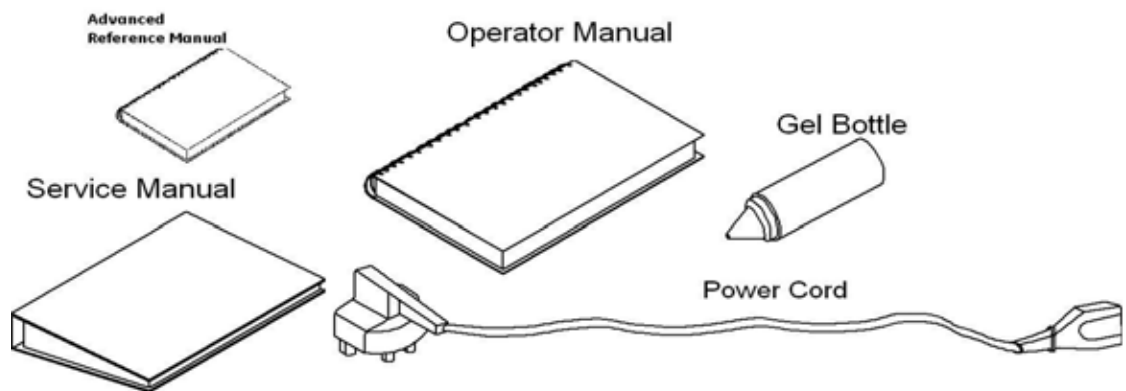

Figure 3-3 Unpacking LOGIQ™ 100 PRO
- 4.) Remove the Operator Manual, Service Manual, Gel Bottle, Power Cord and other accessories kept on either side of the equipment. Refer Figure 3-3.